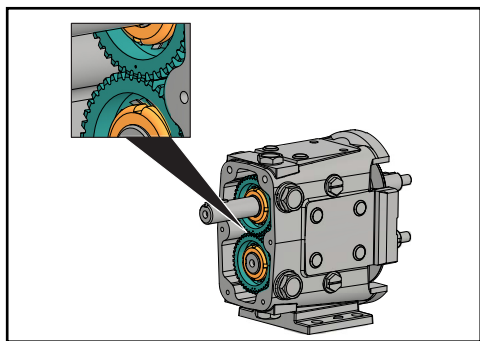

Figure 59 - Timing Gear Marks
3. Slide the short shaft gear onto the short shaft. The short shaft gear has two punch marks on the gear. Straddle the single punch mark of the spur drive gear with the two punch marks on the short shaft gear (Figure 59).